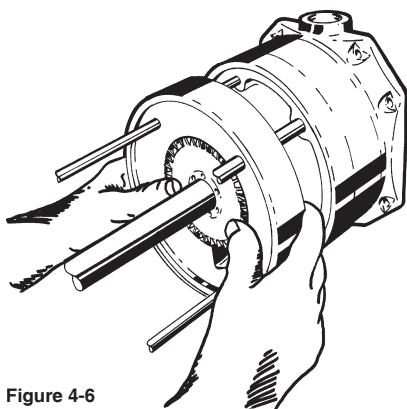

Figure 4-6
the impeller in place when it reaches the end of the shaft so it does not fall. Refer to Figure 4-6.
3. Remove the four (4) nuts (#20) from the guide rods (#18).
4. Remove the eight (8) nuts (#20) from the thru bolts (#19) located on the inlet cover (#1 or #1IN). Pull out the thru bolts.
7. Remove the four (4) guide rod "O" rings (#8).
11. Remove the next channel ring (#10) using the same care as with the first. The impeller (#11) will come off along with the channel ring. Do not attempt to pry the impeller off first, as prying will damage the impeller vanes. Hold the impeller in place when it reaches the end of the shaft so it does not fall. Refer to Figure 4-6.